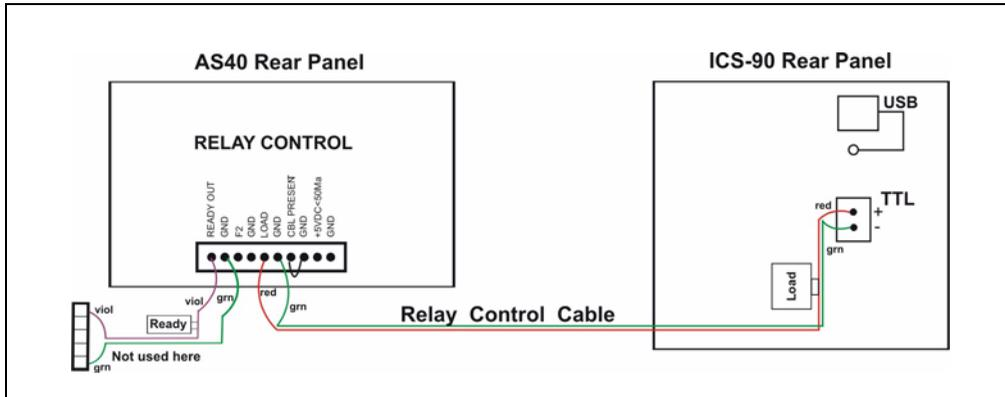

Figure 2-22. AS40 Autosampler Connection
- b. Connect the Relay Control cable's 10-pin connector to the **RELAY CONTROL** connector on the AS40 rear panel (see Figure 2-22).